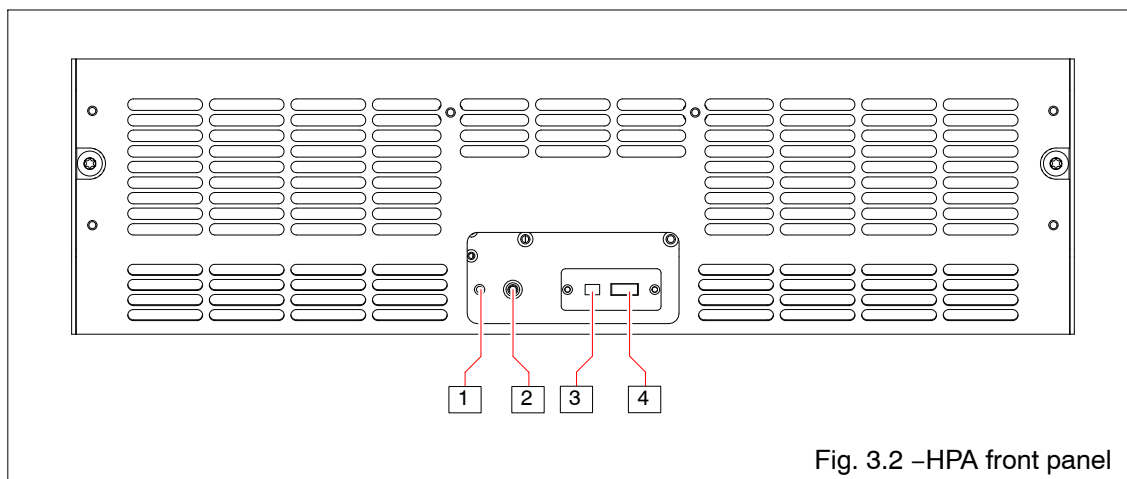

Fig. 3.2 –HPA front panel
- Tab. 3.2 refers to Fig. 3.2 which is the call out of “HPA Unit” front panel
Tab. 3.2 –HPA front panel call out (ref. Fig. 3.2)